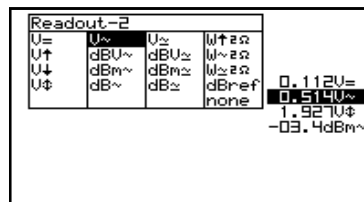

Fig 22
4. Press the cursorkeys to highlight the desired readout function for meter 2 readout. (Fig. 22)